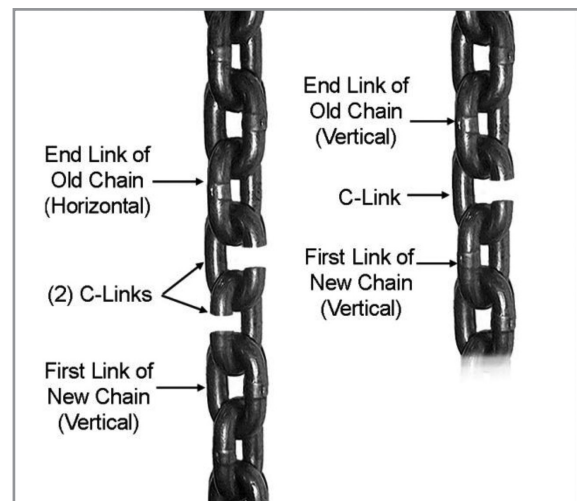

Figure 15
Vertical and horizontal are determined from the relationship with the load sprocket. Vertical links will be guided by the centre slit in the load sprocket. Horizontal links will engage in the oval pockets on the sprocket. See Figure 15.
4. Using a C-link(s), connect the new chain to the old chain. If the end link of the old chain is horizontal, use two C-links. If the end link of the old chain is vertical, use one C-link See Figure 15. Using the correct number of C-links will properly orient the chain and ensure that the first link on the load-side end is a horizontal link.